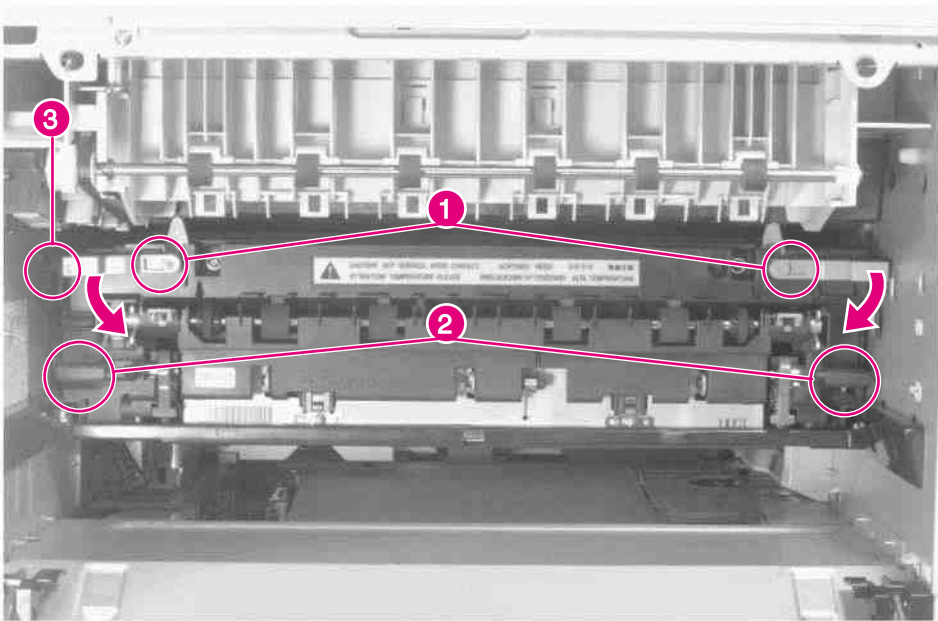

Figure 6-36 Fusing Assembly
- 2 To release the Fusing Assembly rotate the upper levers down (figure 6-36, callout 1).
- 3 To remove the Fusing Assembly lift up on the finger handles (figure 6-36, callout 2) while pulling outward.
- 1** Make sure that the Fuser Output sensor flag (figure 6-36, callout 3) on the upper left corner of the Fusing Assembly rotates freely.